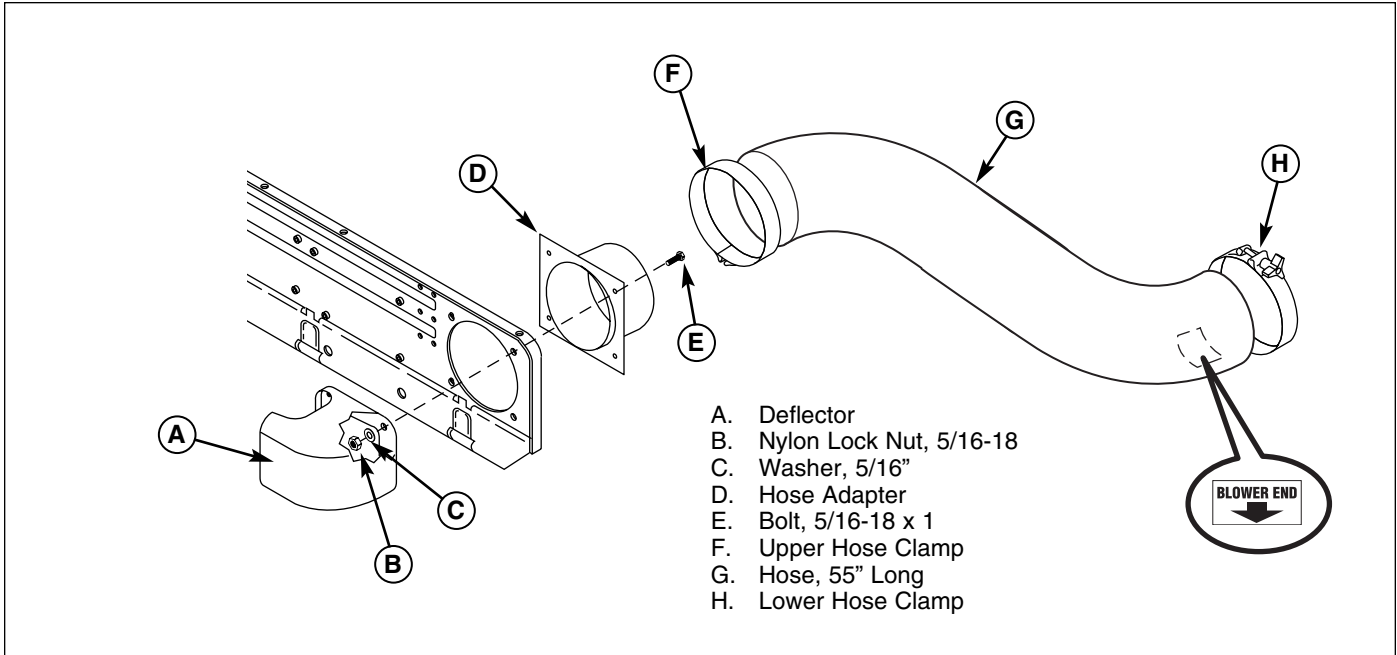

Figure 24. Install Deflector & Hose
1. Install the deflector (A, Figure 24) and hose adapter (D), with the tube pointing down, to the back plate and secure with four 5/16-18 x 1" bolts (E), 5/16" washers (C) and 5/16-18 nylon lock nuts (B).